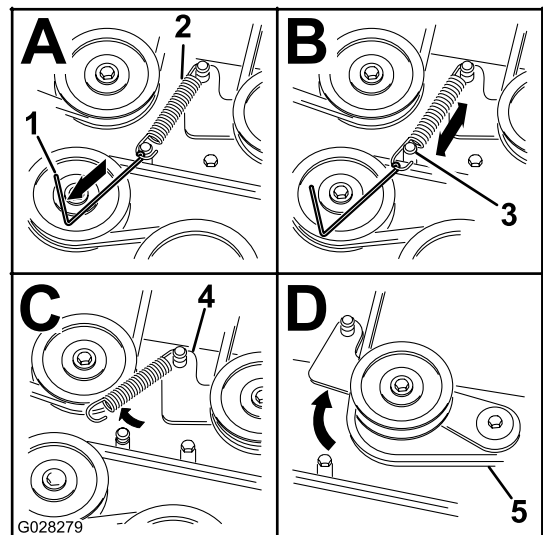

Figure 62
8. Remove the spring tension from the spring-loaded idler pulley. Refer to Figure 62.
Note: Use the spring removal tool (Toro Part No. 92-5771) to remove the spring from the mower-deck post (Figure 62).